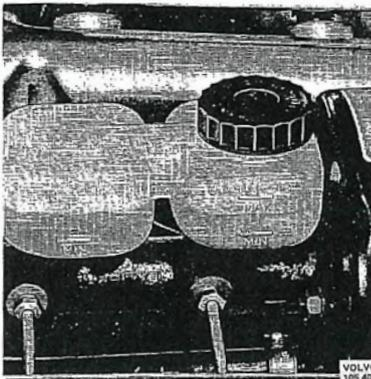

Fig. 1-16. Brake fluid container
2. Without removing the cap, check that level in brake fluid container is above "Min" mark (see Fig. 1-16).